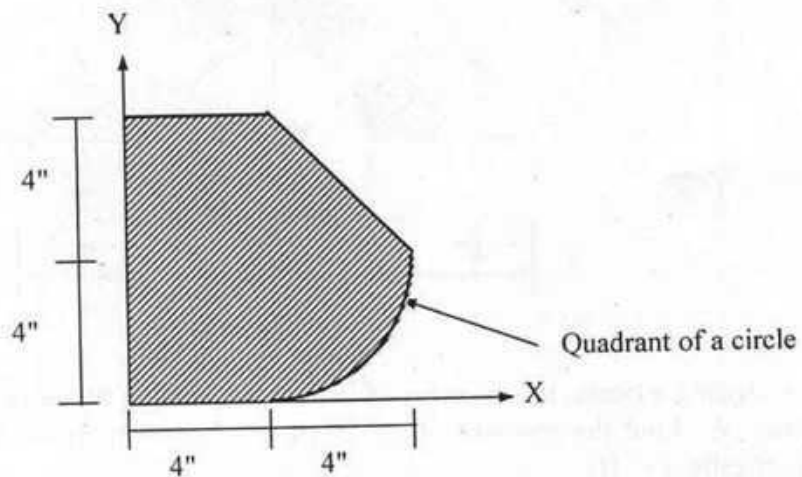

Fig: 11
11. Determine the centroid of the shaded area shown in Fig.11.